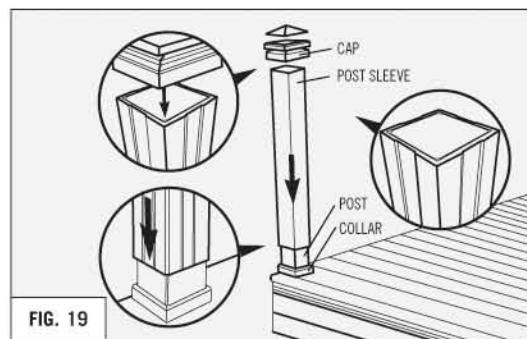

FIG. 19
- The Eon post sleeve is designed to simply slide over an existing 4" x 4" wood post. (REFER TO FIG. 19)